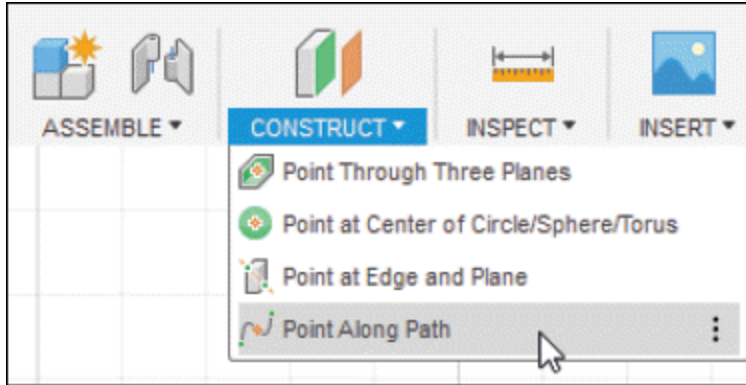
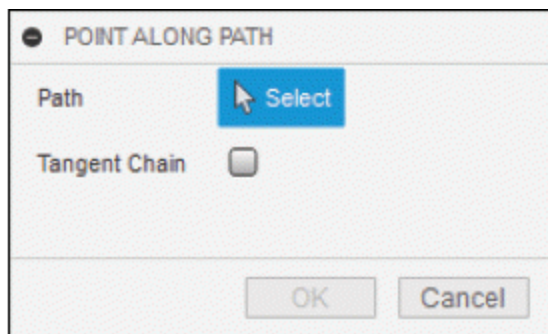

Figure-140. Point Along Path tool
Figure-141. POINT ALONG PATH dialog box
- Click on the **Point Along Path** tool of **CONSTRUCT** drop-down from **Toolbar**; refer to Figure-140. The **POINT ALONG PATH** dialog box will be displayed; refer to Figure-141.